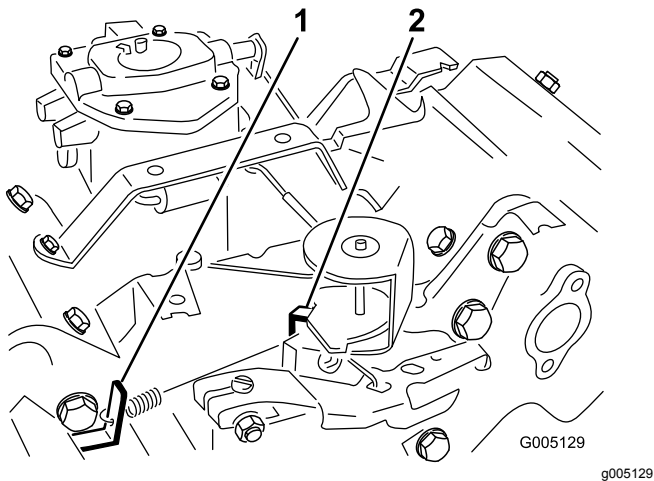

Figure 48
3. Bend the governed idle spring anchor tang (Figure 48) to attain an idle speed of 1650 ± 100 rpm. Check the speed with a tachometer.
5. Move the throttle control to the Fast position. Bend the high speed spring anchor tang (Figure 48) to attain a high speed of 2850 ± 50 rpm.